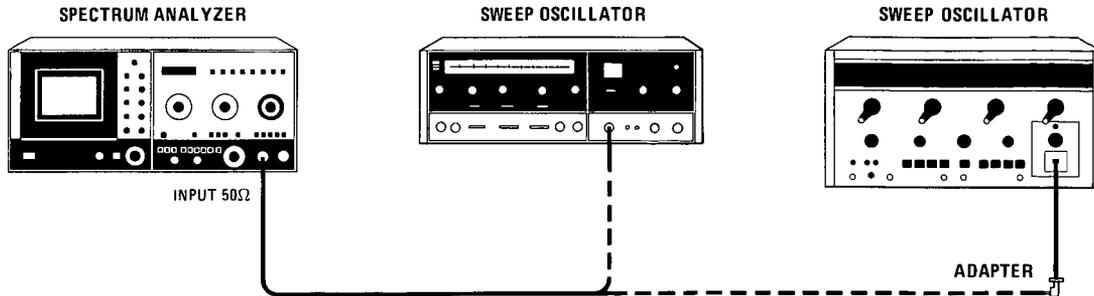

Figure 5-51. YTF Tracking Adjustment Test Setup
- b. Reconnect power cord, set LINE switch ON, connect equipment as shown in Figure 5-51, and set 8565A controls as follows: